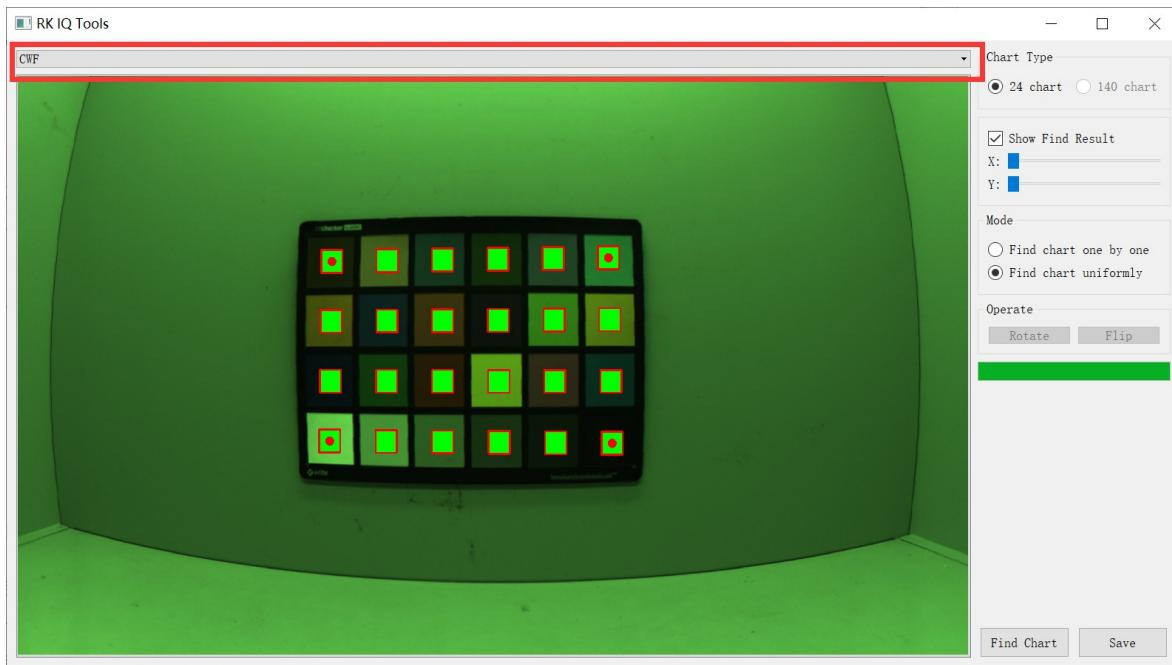

Figure 4-5-2-3
7. Set Saturation to 100%, as shown in Figure 4-5-2-4;